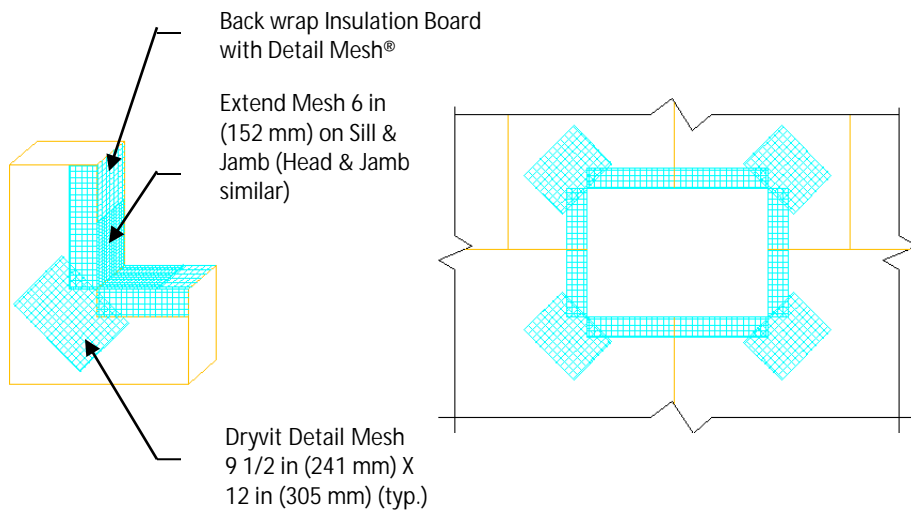

Fig. 21
19. Corners of all openings such as windows, doors, mechanical equipment and all penetrations shall be reinforced with Detail Mesh placed diagonally to the opening as illustrated in Figure 21.